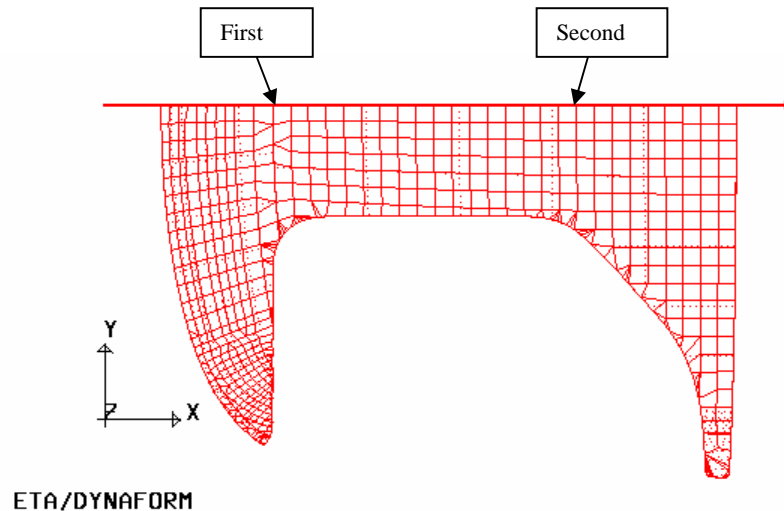
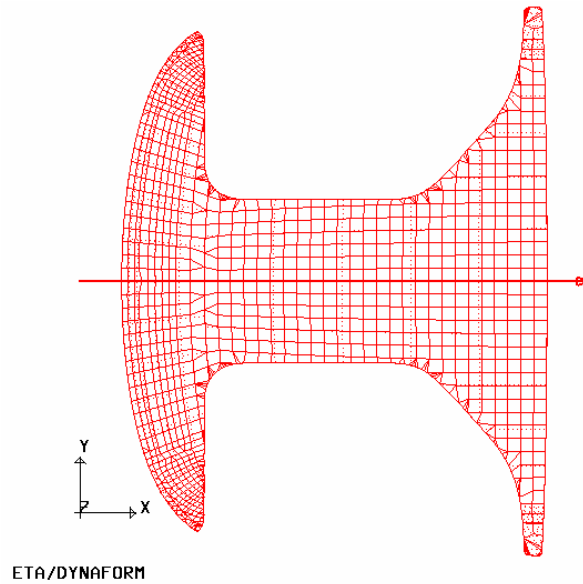

Figure 6.1.13 Half Symmetry Part With X-Z –Plane
Figure 6.1.14 The Result of Mirroring
5. Click **MIRROR GEOMETRY SYMMETRY**, then select the part as shown in Figure 6.1.13. The result is shown in Figure 6.1.14.